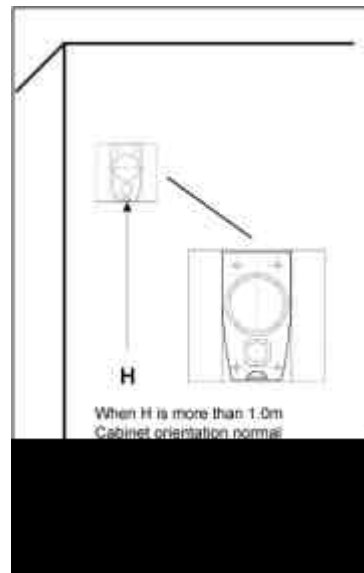

Figure 2
- As a general guide if the cabinet is 1m or more above floor level mount the cabinet in its normal orientation. See figure 2.